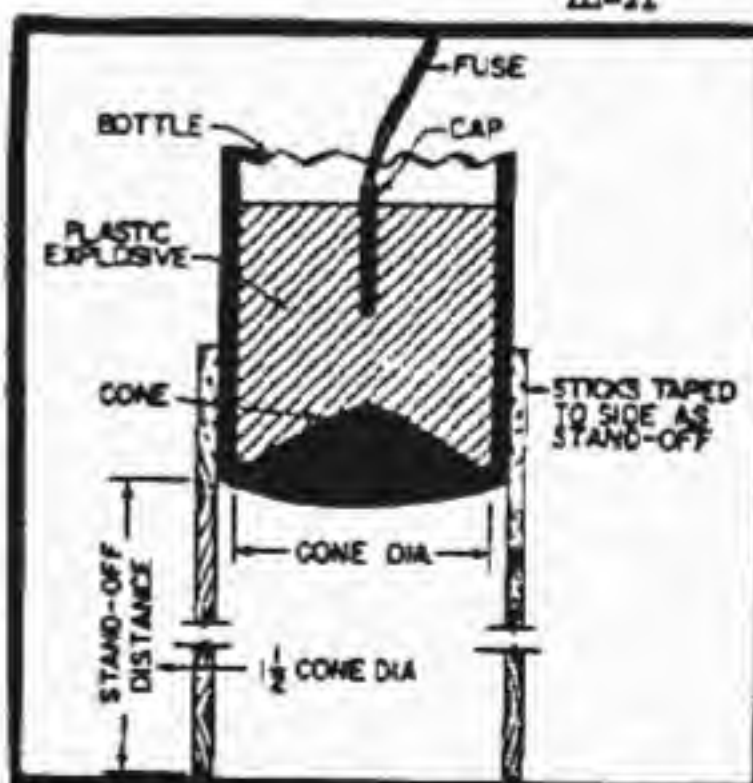

Figure 17 Shaped Charge
e. Shaped Charges. If available, manufactured shaped charges will always give results far superior to those produced by any improvised shaped charges. The angle of the cavity of an improvised shaped charge should be between 30 and 60 degrees. Stand-off should be from 1 to 2 times the diameter of the cone. Height of the explosive, measured from the base of the cone should be twice the height of the cone. Exact center priming and tightly packed C4 is important. Trial and error experimentation in determining optimum stand-off is necessary. A point worth mentioning in preparing hollow-bottomed bottles for shaped charge use is to hold the bottle upright when burning the string soaked with gasoline. As the flame goes out submerge the bottle, neck first, in water; and if properly done, the bottle will break cleanly where the string was burned. Hemispherical cavities will produce more surface damage on the target but less penetration. A true cone with an angle of approximately 45 degrees will produce more penetration, which ultimately is the desired results. (See Figure 17.)